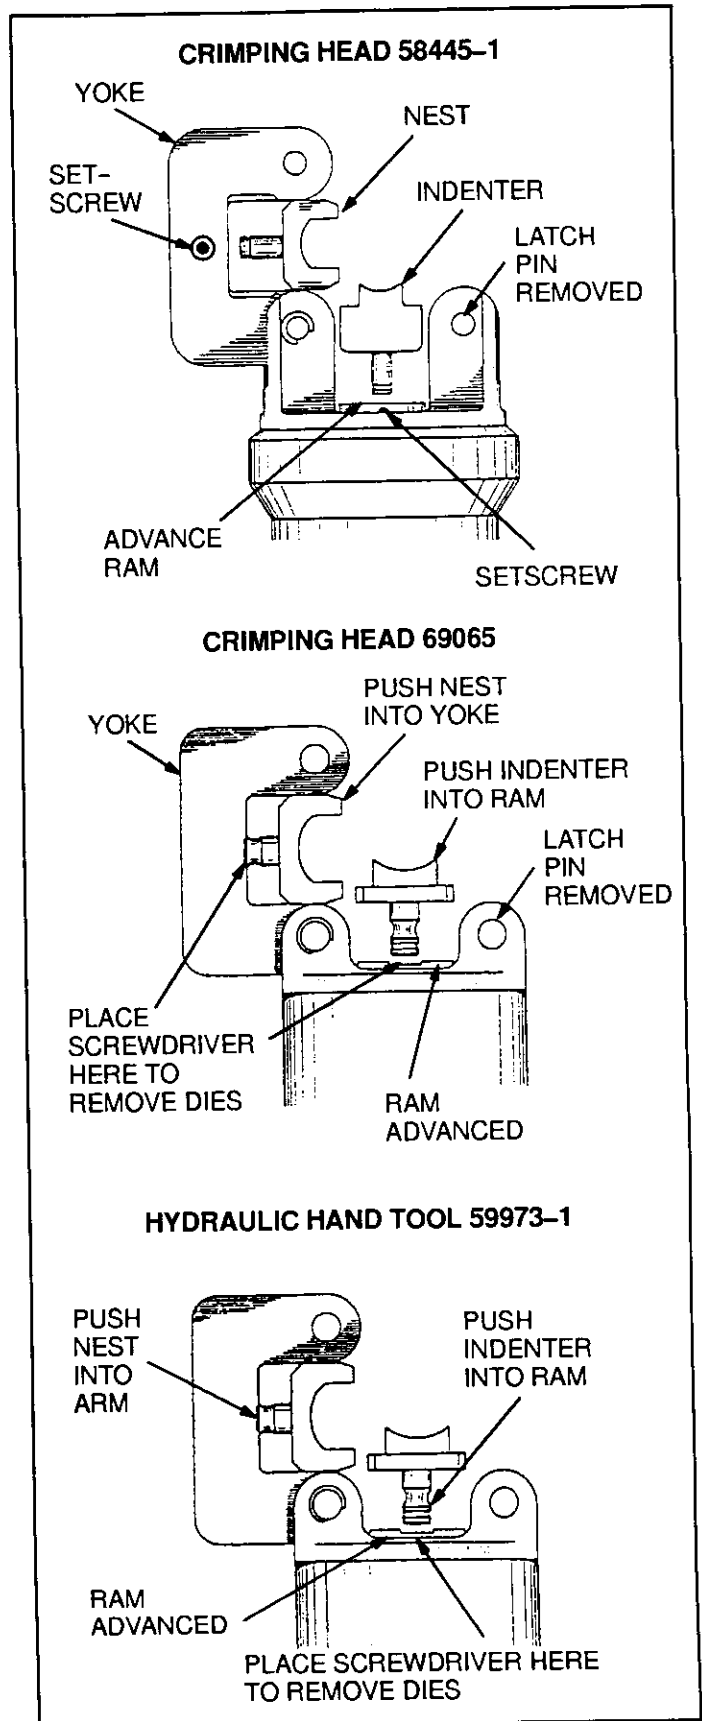

Fig. 3
### A. Crimping Head 58445 (Figure 3)
## B. Crimping Head 69065 (Figure 3)
3. Activate power unit to advance ram to approximate position shown in Figure 3.
**C. Hydraulic Hand Tool 59973-1 (Figure 3)**